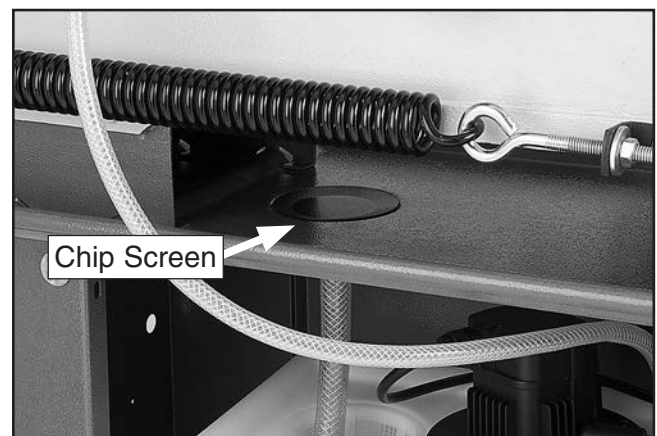

Figure 13. Chip screen installed.
- Place chip screen into opening shown in **Figure 13**.